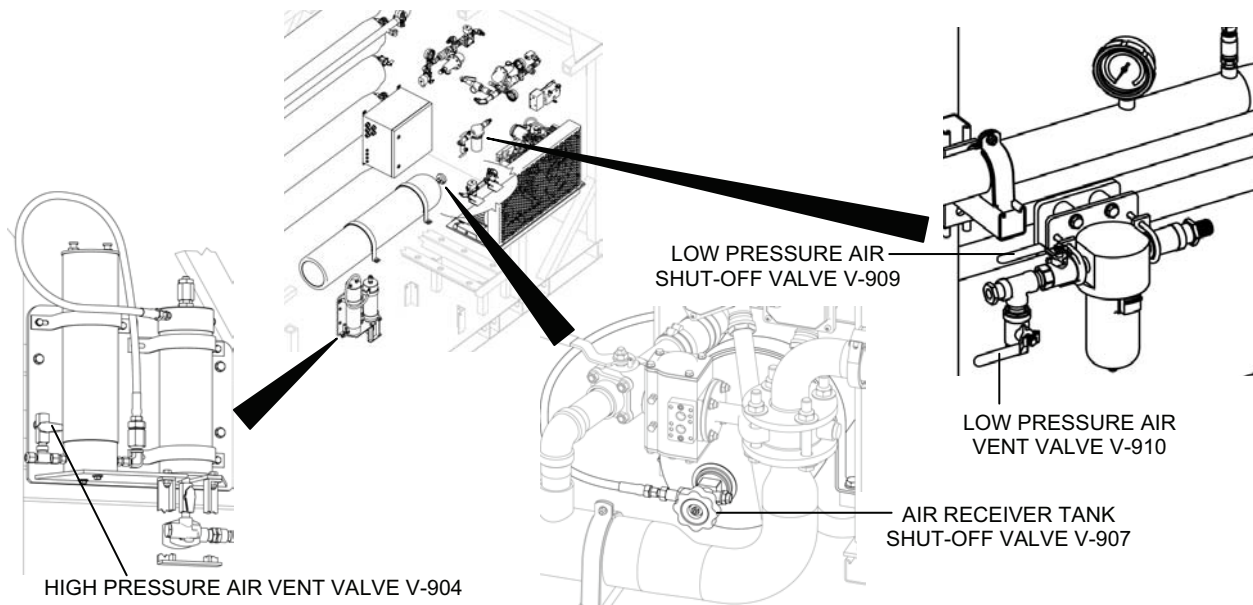

Figure 2. Valves for Bleeding the Entire Air System.
2. Bleed the entire air system as follows (see Figure 2 for valve location):